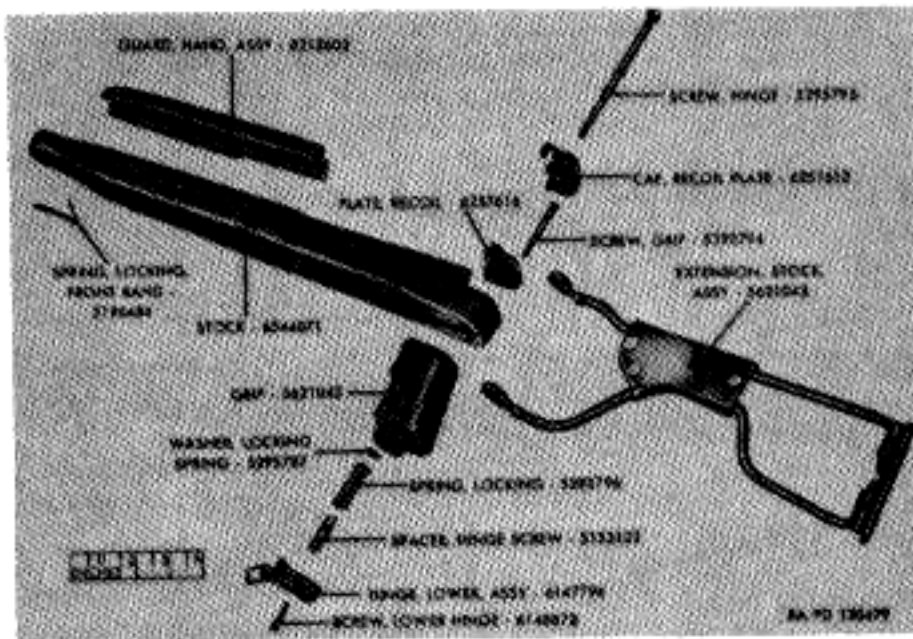

Figure 105. Stock assembly 6544072 and hand guard assembly 6212602 for carbine M1A1.
#### a. Stock Extension (Fig. 105).
*m.* Inspect cheek rest plate and retaining plate for deformation and looseness with each other on the bars when assembled. Inspect rivets for looseness and protrusion of heads. Inspect cheek rest cover for scoring and cracking of leather. Cheek rest plate should be held tightly to bars by retaining plate and rivets, and leather cover, on the stock extension assembly (Fig. 105), should be smooth, so it will not scrape face of operator.